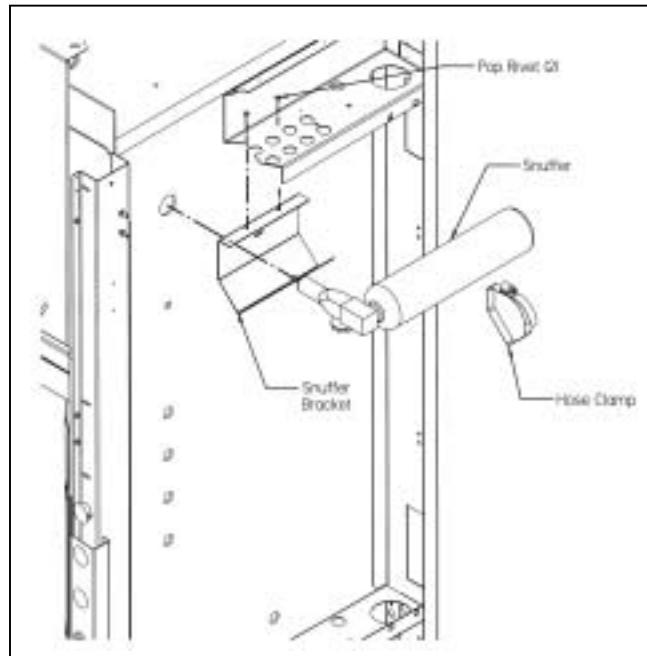

Figure 3
1. On hoods 4 Ft, 5 Ft and 6 Ft in width, locate one unit on the centerline of the hood per Fig. 3. Hoods 8 Ft and greater require additional units and should be mounted equal distance behind the light assembly. **NOTE:** Protruding discharge nozzle should have an unobstructed discharge at the desired protection zone.